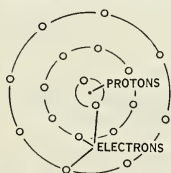

Fig. 274. According to theory atoms are made up of charges of electricity, protons, + charges and electrons, - charges.
**Theory of electricity.** No one knows certainly why a rubber rod acquires a charge of electricity when it is rubbed with fur, but we do have a theory which explains it. While no one has ever proved this theory, we use it because it is the best explanation offered so far by scientists. Every substance is made up of *atoms* (Fig. 274). An atom in turn is made